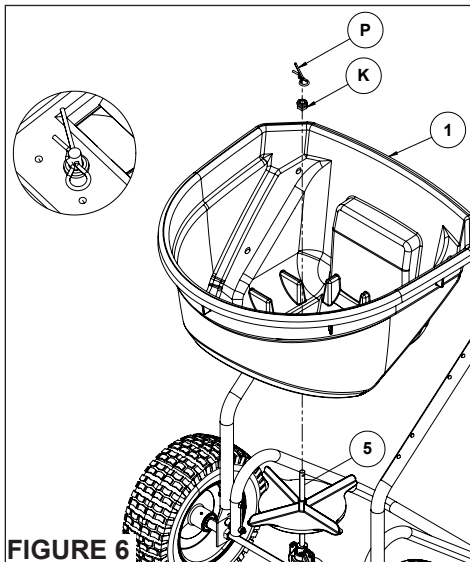

FIGURE 6
STEP 6: (SEE FIGURE 6)
- Align the spreader hopper (1) to the shaft (5).
- Slide the bushing (K) onto the shaft (5) secure the assembly with hair cotter pin (P).